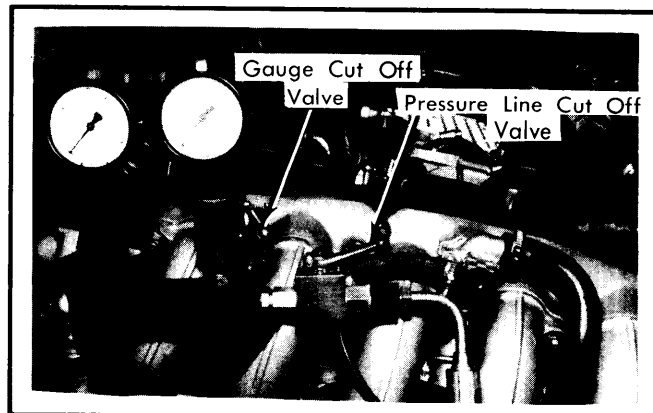

Fig. 6 Power Steering Pump Pressure Check
2) Shut cut-off valve on gauge. Open shut-off valve on pressure line (See Fig. 6), and bleed system with engine running at idle. After bleeding, close valve in pressure line for 10 seconds maximum and read pressure. On 528i and 633CSi, pressure should be 1400±140 psi (98.5±9.8 kg/cm²). On 733i, pressure should be 1560±156 psi (109.5±11 kg/cm²). If pressure is not within limits, check belt tightness. Repair or replace pump if belt adjustment does not remedy problem.